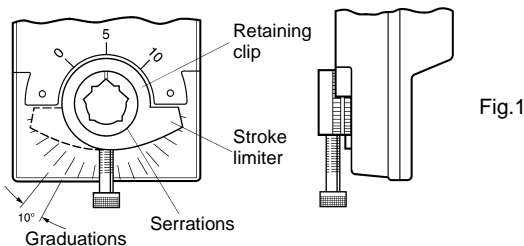

Fig.1
1. Unscrew the M8 socket screw from the actuator (Fig.1).